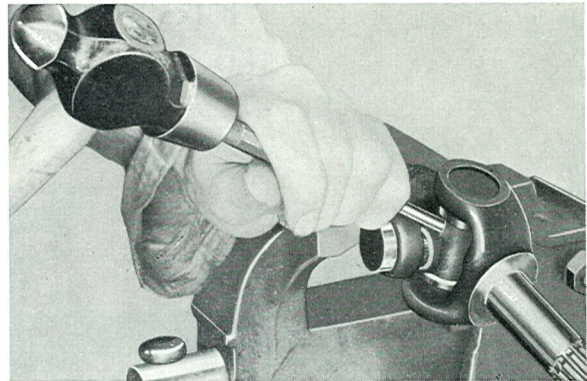

Fig. 4-73. Removing the spider, I
4. Then drive the spider as far as it will go in the opposite direction, see Fig. 4-73.